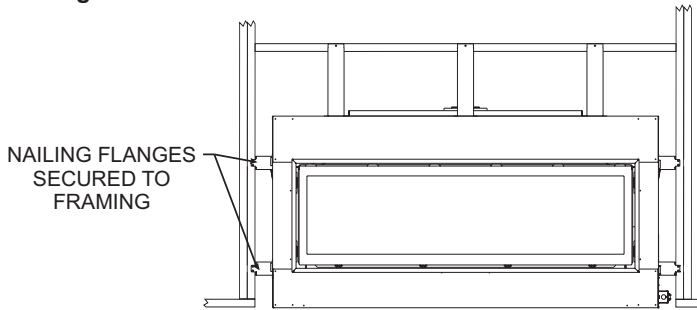

Figure 25
- Secure fireplace to framing with nailing flanges. Preset depth to suit facing material (flush or 1/2in set back depths). See Figure 25.